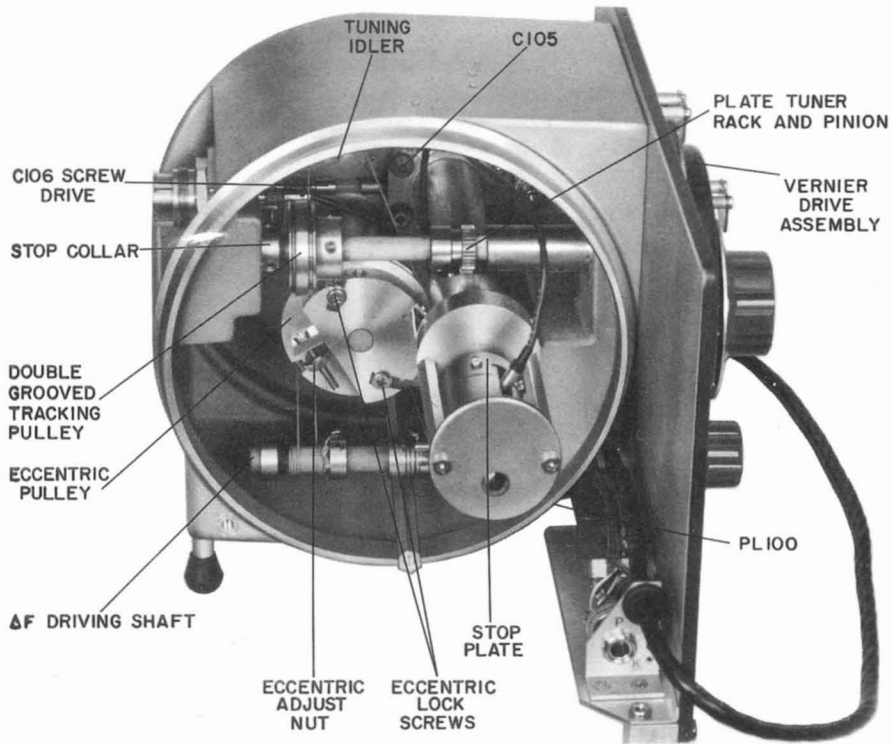

Figure 6-6. Interior view of Type 1218-B oscillator with shield cover removed showing tuning-adjustment points.
### 6.8.2 LOW-FREQUENCY ADJUSTMENT (Figure 6-6).
**6.8.3 HIGH-FREQUENCY ADJUSTMENT (Figure 6-6).**
The capacitive fine-tuning adjustment (C106) is a metal-disk probe inserted into the plate line, near the tube. It is driven by a nonmetal cable which works on a pulley arrangement to actuate a screw drive. A front-panel knob can be rotated about  $300^\circ$  in either direction from a neutral setting to vary the probe penetration. The drive mechanism of the capacitor is shown in Figure 6-6.
The cable is strung properly when the following requirements are met (see Figure 6-6). At the clockwise stop of the  $\Delta F$  driving shaft there are two or three turns of cable adjacent to the spring,  $3 \frac{1}{2}$  turns around the rear half of the exposed threaded portion of the driven screw, and three or more turns around the driving shaft where the cable terminates at a collar. In that position, the screw comes within  $1/32$  inch of its limit, where the shoulder would bottom on the plate-line flange. The portion of the cable that comes off the top of the driving shaft should start underneath the driven shaft, in order to reverse the direct of rotation.
- b. Remove the vernier drive assembly (Figure 6-6) and again mark the stop locations, one of which should be unchanged.
The output-power level is controlled by rotation of the output pickup loop (L101), actuated by means of a cable-driven slotted drum on the left-hand end of the plate line (Figures 5-2 and 6-2). A curved metal plate on the top of the drum serves as a stop to protect the hidden end of C106, the fine-tuning probe. It limits the lineal excursion of the coaxial output cable, which is affixed to the plate-line tuning plunger, and prevents it from striking the probe (Figure 5-2). Therefore, if the stop plate (Figure 6-6) is to be removed, it should also be returned to exactly the same position.